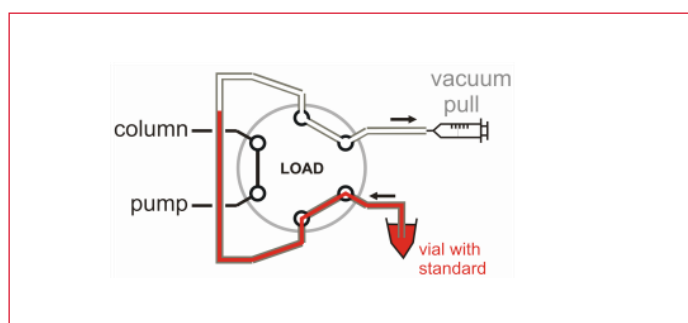

Figure 7: Schematic representation of 'backward aspiration' injection method on a sampling valve.
- Backwards aspiration complete loop filling** - Disconnect the microdialysis tubing from the valve and connect a piece of tubing with a plastic syringe attached to the end (Fig. 7). Instead of connecting/disconnecting regularly and creating wear/tear, a manual micro switch like the CMA 110 Liquid Switch is advised. By pulling the plastic syringe, the liquid will move in reversed direction through the sampling loops. The outlet line must be used to aspirate calibration standards. It has to be taken into consideration that the efficiency of filling the loops is 100% in this way, which may not be the case when running the microdialysis set-up. The efficiency of loop filling during an experiment can be measured by comparing the response of a standard that is inserted in the loops by the backward aspiration method, and the response to the same standard, after inserting it in the glass syringe and inserting it automatically into the sample loops under the same conditions of microdialysis sampling. For any combination of microdialysis flow rate and time between injections, loop filling efficiency will be a fixed value throughout the experiment. Note that high loop filling efficiency is important to have enough sensitivity.
Figure 7: Effect of injection volume on chromatograms of 10 nmol/L standards in Ringers solution with 10 mmol/L acetic acid. Conditions as in Table 1, but with $\mu\text{VT-03}$ flow cell and ISAAC ref. electrode vs 8 mmol/L KCl (640 mV).